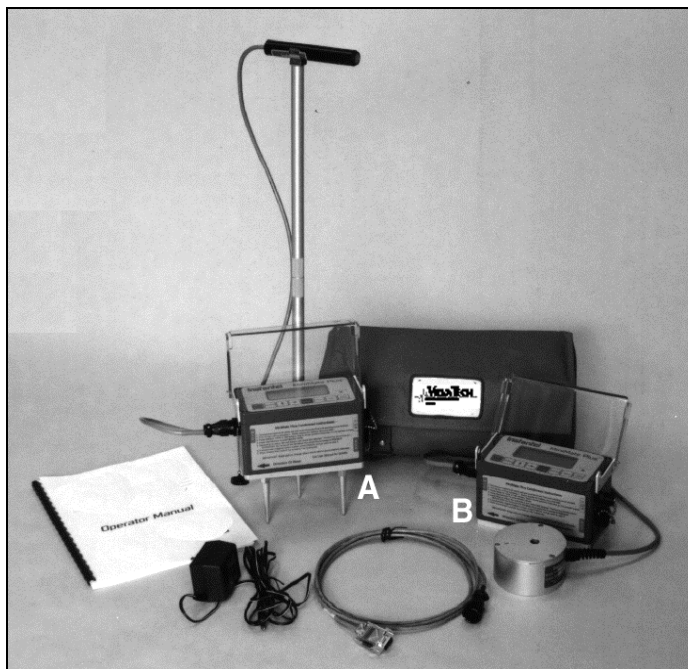

Figure 1-1 MultiSeis Plus Models and Accessories.
The MultiSeis Plus series of monitors includes two models based on the number of recording channels, as shown in Figure 1.1. The standard model offers four recording channels and a built-in standard transducer (A). The second model offers eight recording channels with your choice of external transducers and microphones (B). All models offer the level of performance and ease-of-use you expect from Vibra-Tech monitors.